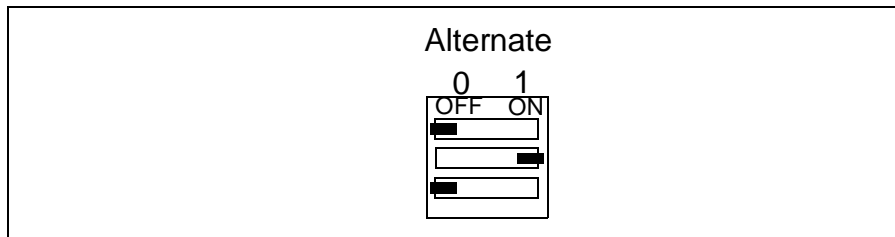

Figure 4-5 Alternate switch S1 selection.
- Alternate, refer to Figure 4-5 and from Table 4-9 to Table 4-11
- Alternate 2, refer to Figure 4-5 and from Table 4-12 to Table 4-13